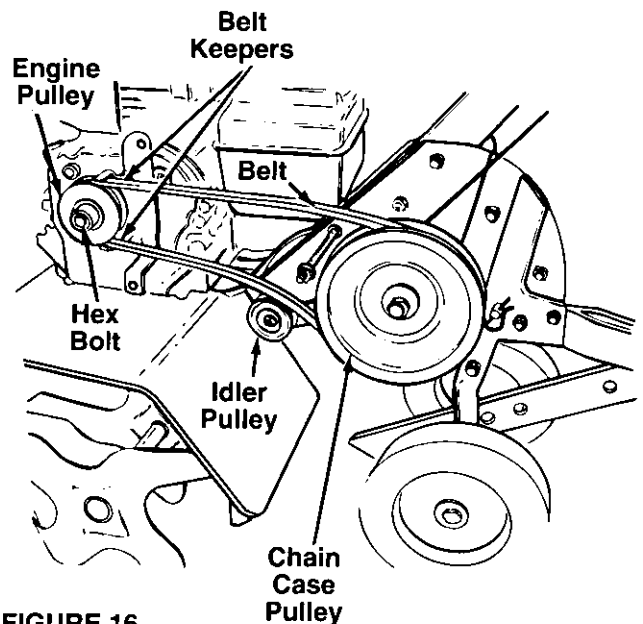

FIGURE 16.
4. Loosen the hex bolt which secures the engine pulley. See figure 16. Slide the pulley half out from between the belt keepers. Remove the belt.
**NOTE:** Upon reassembly, make certain the belt is routed in between the belt keepers at the engine pulley, and over the idler pulley as shown in figure 16.